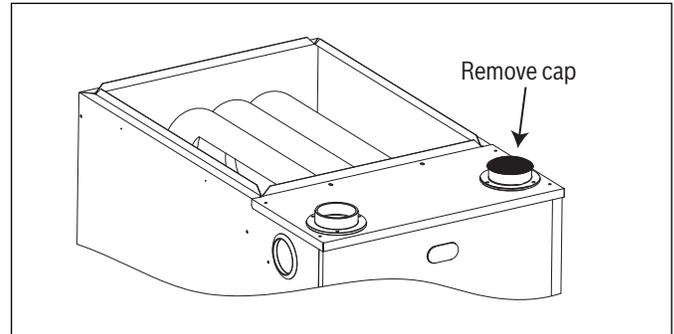

Figure 23 Protective Cap Removal
- ▶ Prior to installing the exhaust vent pipe, ensure that the black plastic cap is removed from the coupler on furnace cabinet. The cap is only used to prevent debris from falling into the vent opening and into the inducer during installation. Refer to Figure 23.